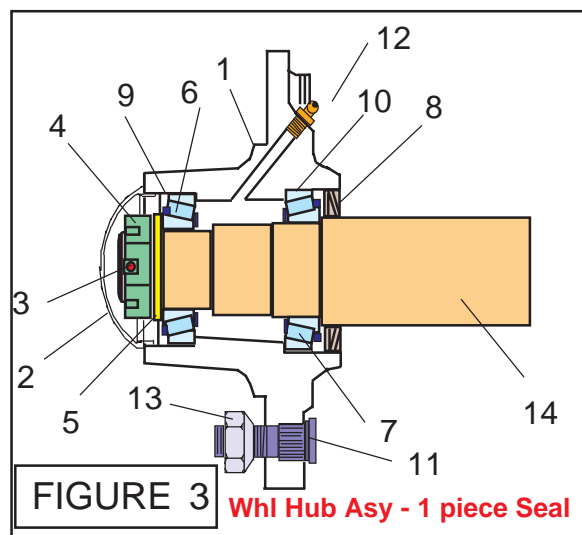

FIGURE 3 Whl Hub Assy - 1 piece Seal
12. Refill speed increaser with oil, Check the Oil level in the speed changer Use a recommended grade of oil. A recommended grade is **SAE 90W oil with E.P. Additive**. Most speed increaser are installed where the pump will mount above the PTO (figure 1) but in some case it may require the pump be mounted below the PTO shaft height. If this is the case the breather plug will need to be installed in a different location on one of the side plugs. Normal fill level is the setscrew plug about 1/3 of the way up on the side of the housing. If Speed increaser is turned to the bottom opposite what is shown in figure 1 the level plug will be the one that was on the bottom before and would be just below the center line of the bearings (figure 3)
Important Note: There are **two types of hubs (figure 3 & 4)** that have been used, these are best identified by the seal type. The earlier type has a one piece seal (**figure 3**). The later type has a three piece seal (seal, inner seal adapter and outer seal protector). If the hub you are working on has a one piece seal it must be re-assembled using the components of the one piece seal hub. If it is a three piece seal (**figure 4**) it must use components for three piece seal hub. The parts for the two different hubs will not interchange. Check which you have before ordering parts. See figure 3 & 4 for items reference in dis-assembly steps.
5. Pull the hub (item 1) out slightly while holding your hand against end of spindle at attaching nut end, this will allow you to catch the outer bearing cone (Item 6).
6. Continued to pull outward on the hub and the hub (item 1) will slide off with inner bearing cone (item 7) and wheel seal (figure 3 & 4 item 8) staying in hub.
7. Wheel Seals, there are two different types. Old type 1 piece seal (figure 3 item 8) which consist of the standard type seal as shown in figure 3 & 5. New style 3 piece seal (figure 4 item 8) consist of, 1 - inner seal adapter, 1 - inner seal and a outer seal protector which drives onto the spindle (figure 4 & 6). The same type seal that is removed from the hub must be the type that is replaced. **Parts between these two hubs will not interchange**, identify which hub you have by the type seal in it before ordering replacement parts. The 3 piece seal components, seal adapter, seal and seal protector are **not available as individual pieces**, they can only be ordered as part of the replacement seal assembly.